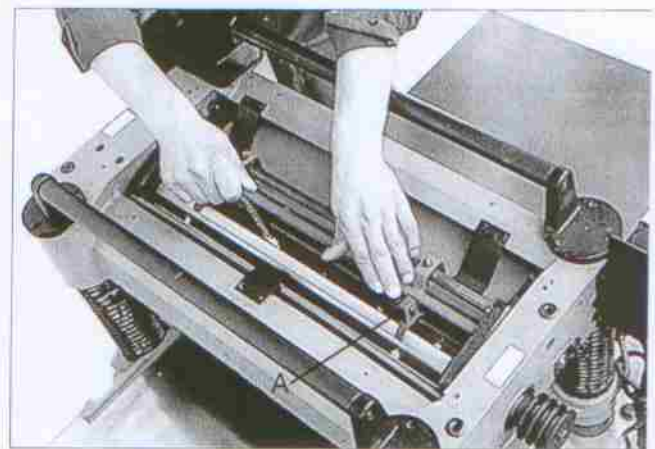
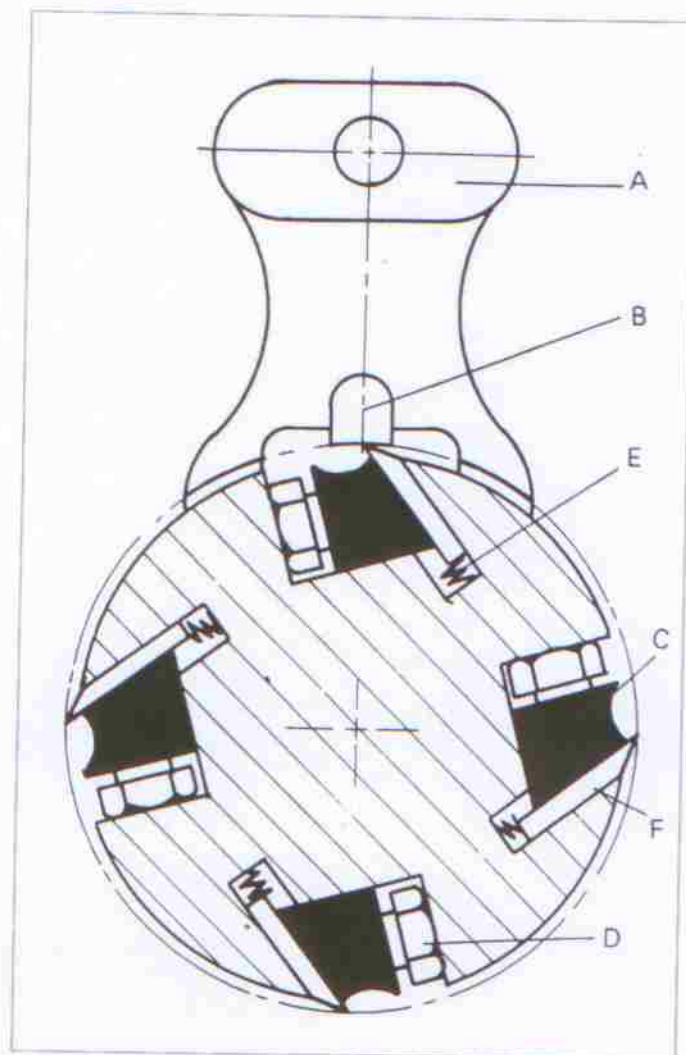

Fig. 21
Fig.22
3. To check and adjust knives use the knife gage (A) Fig. 21 and check all four knives. Knives should just contact the bottom of the center protrusion (B) of the knife gage, as shown in Fig. 22.
4. If an adjustment to one or more of the knives is necessary, slightly loosen the knife locking bars (C) Fig. 22 of all four knives by turning the 24 locking screws (D) Fig. 22 into the knife locking bars just enough to relieve stress in the cutterhead and not disturb the setting of the knives.
5. Using the knife gage adjust the knife, that must be reset by loosening all six locking screws (D) Fig. 22, by turning them into the knife locking bar. As the knife locking bar becomes loose, lifter springs (E) located under the knife will raise the knife until it comes into contact with the center protrusion (B) of the gage (A) Fig. 22. Then snug up the knife locking bar by lightly backing out the six locking screws (D) against the slot.
7. After all four knives are set with screws just snug, back out and tighten the six screws (D) Fig. 22 against the slot, starting with the end screws first, then the center screws until the knife is securely held in the cutterhead.
- 3.To remove knife,loosen the knife locking bar(C) Fig. 22,by turning the six knife locking screws(D) into the knife locking bar(C) and remove the knife locking bar (C),knife(F)and springs(E) located the knives.Please take note,the inner two springs will pop out when removing the knife and knife locking bar.
- 6 Inspect the cutting edge of the knives for nicks or wire edge.Hone the knives, slightly using a stone if the knives are to be sharpened,maintain a cutting angle of 35 degrees as shown in Fig.22
- 7 Insert springs(E),knives(F),and knife locking bar(C), into slot of the cutterhead,as shown in Fig.22.Back out locking screws(D)just enough to hold the knife in the cutterhead.
- 8.Place the knife gage(A) over the knife as shown in Fig.22
- 9.While holding down on the knife gage (A)Fig.22, loosen all six locking screws(D)by turning them into the locking bar(C)until cutting edge of knife(F) comes into contact with the protrusion (B) of gage(A).Then snug up the knife locking bar(C) by slightly backing out the six screws(D) against the slot.
11.After all four knives are set with the screws just snug,back out and tighten the six screws(D)Fig.22, against the slot starting with the end screws first and then the center screws until the knife is securely held in the cutterhead .Tighten the remaining three knives in the same manner.